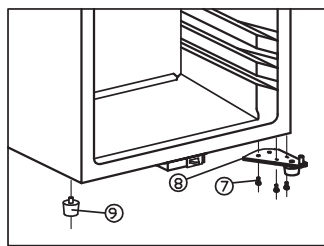

fig. 7.3
- Remove the long cabinet leg (9) on the left side, and shift it to the right end side. See fig.7.3
- Install the door on the axle of lower hinge (8) the same way it was removed, screw back the top hinge on the left.